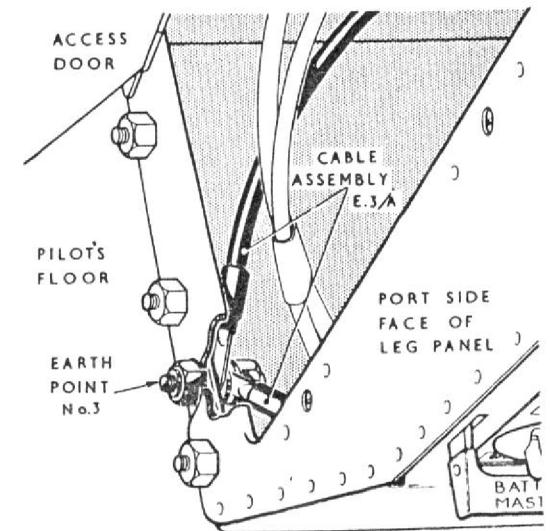

Fig. 4. Earth point 3
- (1) Render the aircraft electrically safe (Group A.1).
- (2) Disconnect the Bowden cable from the rudder bar release lever at the top of the leg panel and stow it away from the panel.
- (3) Disconnect cable assembly F31 from cable assembly F64 at the plug and socket, located on the starboard side of the instrument panel mounting structure. Remove any straps and clips securing the F31 cable and coil it back to the leg panel. Fit an approved cap and cover to the plug and socket.
- (4) Disconnect cable assembly A11 from cable assembly A12 at the plug and socket break, located on the port side of the instrument panel mounting structure. Remove any straps and clips securing the A11 cable and coil it back to the leg panel. Fit an approved cap and cover to the plug and socket.
- (5) Disconnect cable assembly E3/A from earth point 3, obtaining access via the hinged door in the port side of the leg panel (fig. 4).
- (6) Disconnect all the plugs and sockets on the cable assemblies at the leg panel. Seal off the plugs and sockets with approved caps and covers and stow the cable assemblies away from the panel.
- (7) Release the leg panel from its mountings by removing the nine bolts from around the bottom forward, and side faces of the panel. Remove the leg panel from the cabin, complete with cable assemblies F31 and E3/A.